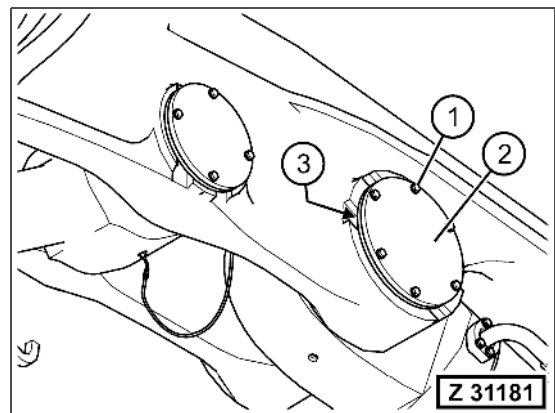

Fig. 5-186
11. Assemble the cover (Fig. 5-186, Pos. 2), the ring (Fig. 5-186, Pos. 3), and the bolts (Fig. 5-186, Pos. 1).